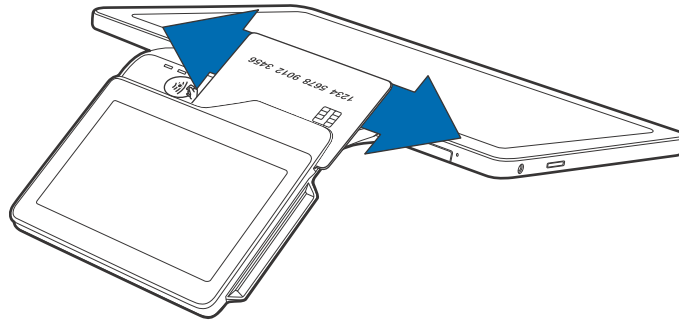

Figure 13 Using the Magnetic Card Reader
- 2 To ensure a proper read of the magnetic stripe, swipe the card smoothly through the reader in one direction (either to the left or to the right), as shown in Figure 13.